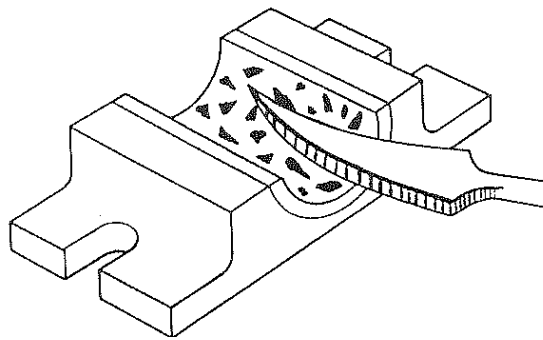

Figure 9.19 Scraping the bearing to remove high spots
- High spots on bearing will be marked and are then scraped off. (see **Figure 9.19**) This procedure is repeated until the shaft beds properly in the bearing.